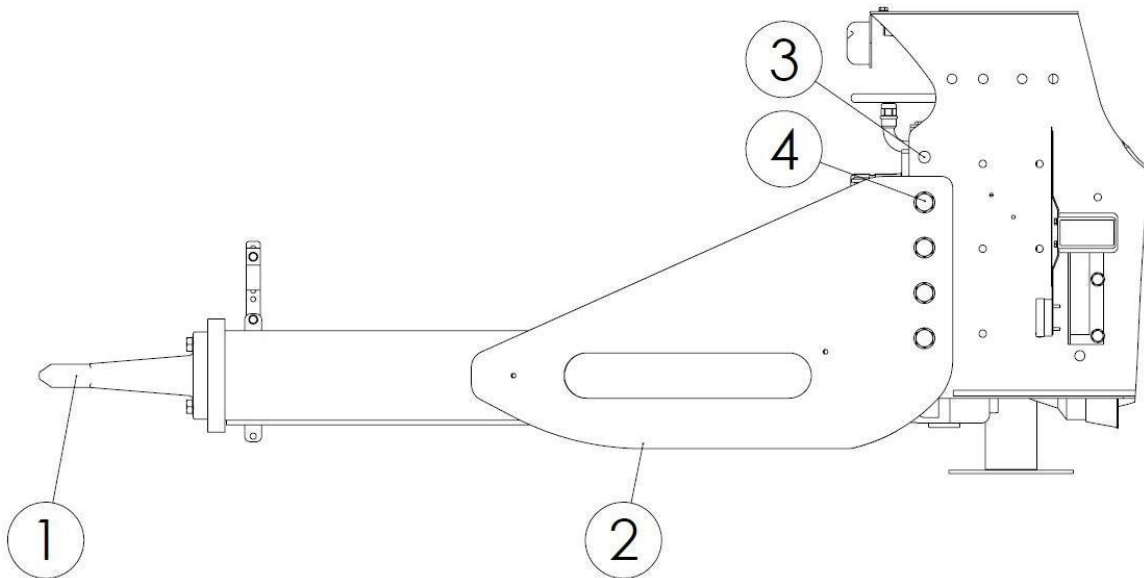

Figure 35. Drawbar position
The factory assembled feeder wagon is designed to be coupled only with the lower hitch of the tractor. The drawbar (2) offers the option of changing the height of the hitching eye (1) in relation to the ground – see Figure 35. This is done by positioning the drawbar on the appropriate mounting holes (3) located in the frame and tightening the bolts (4) with the correct torque. The drawbar is set at the correct height by levelling the feeder wagon, which ensures even distribution of the weight of the feeder wagon along the axle. Once the feeder wagon is connected, make sure that it is properly levelled, both with and without load.